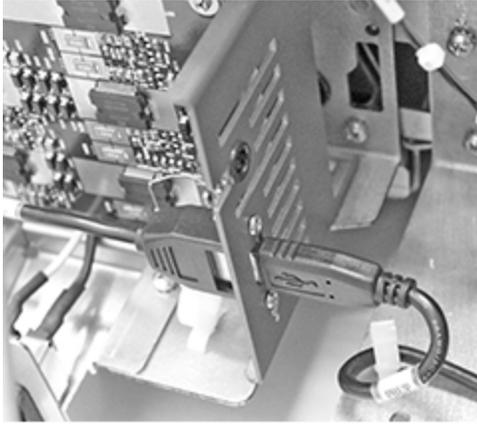

Figure 28 HCSF to HCSF USB Wiring
3. Connect the USB cable as shown in Figure 28.